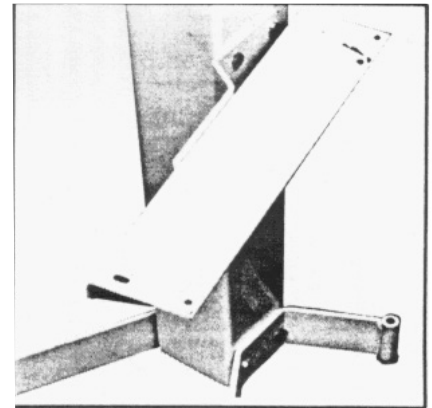

FIG. 9
1. With the pump bracket mounting holes on the right-hand side of the main tube, attach the two legs to the main tube using four 3/8" cap screws and nuts. See FIG. 9, Item 1.
2. Using two 3/8" cap screws and nuts, fasten the pump mounting bracket to the main tube. See FIG. 9, Item 2.